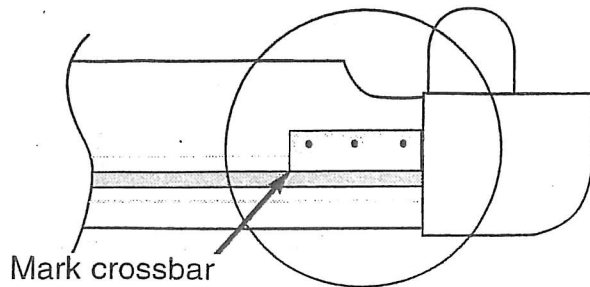
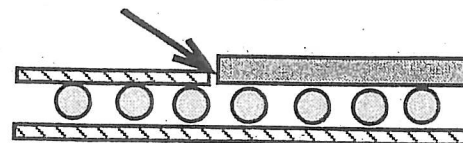

FIGURE 1
FIGURE 4
1. Position the plate at the far right/starboard side of the rear crossbar. Place the plate against the casting and mark the crossbar at the left side of the plate as in **figure 1**.
2. Using a dremel tool, reamer or 3" disc sander, remove the track lip on the forward side of the crossbar to allow the plate to drop into the track as shown in **figure 1 thru 3**. Avoid damaging backside and bottom of track by masking with several layers of masking tape. Remove enough of the lip so that the traveler car can be tipped aft and easily removed or installed.
4. Position the plate in the track as shown. Be sure that the plate is flush with the outer edge of track lip as shown in **figure 1 and 3** to maintain the track width. Also, position the plate flush with the remaining track lip to the left leaving little or no gap there (see **figure 4**). It is preferred that any gap be left on the corner casting side of the plate where no car wheels will roll.
5. While holding the plate down in the track, roll the traveler car to the right end of the track with a slight upward pressure. This will identify any possible spots that the car may catch on. A small amount of filing may be needed to make the traveler rolling surfaces flush (See **figure 4**).